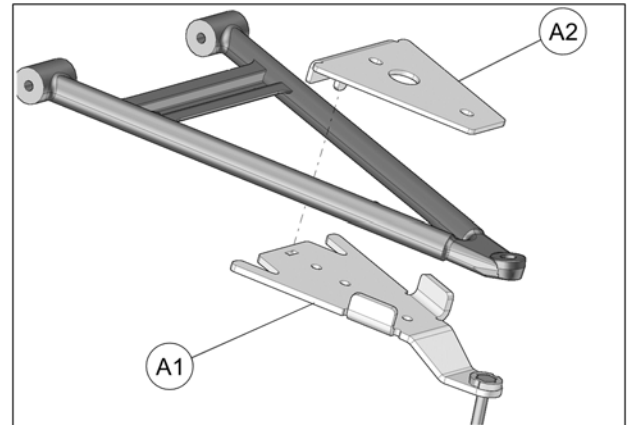

Fig. 17
5. Position bottom part of anchor bracket (A1) underneath lower suspension arm. Position top part (A2) over suspension arm so that the tenon slips in the mortise cut in the bottom part. See Fig. 17